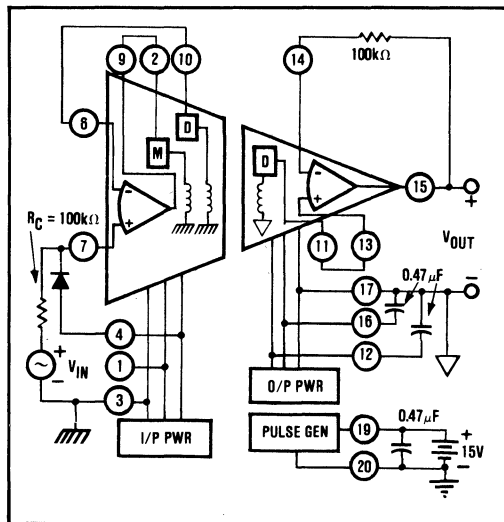

FIGURE 2. Power: Three-port Isolation;
5. The input voltage at pin 7 (noninverting input to A_1) must not exceed the voltage at pin 4 (negative supply voltage for A_1 in order to prevent a possible lockup condition. A low leakage diode connected between pins 7 and 4, as shown in Figure 2, can be used to limit this input voltage swing.
NOTE: Figures 2, 3 and 4 are used to illustrate both signal and power connection configurations. In the circuits shown, the power and signal configurations are independent so that any power configuration could be
The power supply connections in Figure 2 show the full three-port isolation configuration. The system has three separate grounds with no galvanic connections between them. The two external $0.47\mu\text{F}$ capacitors at pins 12 and 16 filter the rectified isolated voltage at the output stage. Filtering on the input stage is provided by internal capacitors. In this configuration continuous isolation voltage ratings are: 3500V between pins 3 and 17; 3500V between pins 3 and 19; 1000V between pins 17 and 19.
The signal path portion of Figure 2 shows the 3656 in its simplest gain configuration: unity gain noninverting. The two $100\text{k}\Omega$ resistors provide balanced resistances to the inverting and noninverting inputs of the amplifiers. The diode prevents latch up in case the input voltage goes more negative than the voltage at pin 4.